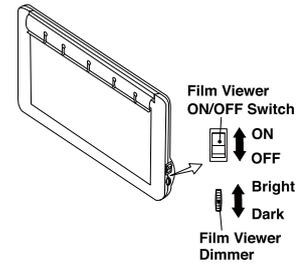

Fig.3-20 Panorama Size Film Viewer
- (8) Panorama Size Film Viewer (Optional) (Fig.3-20)